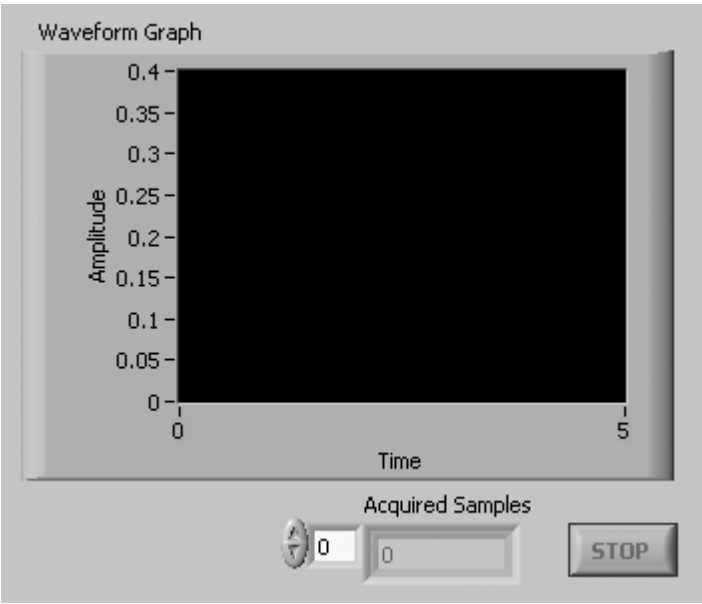

Figure 11.9
7. Build the front panel and block diagram shown in Figures 11.9 and 11.10.